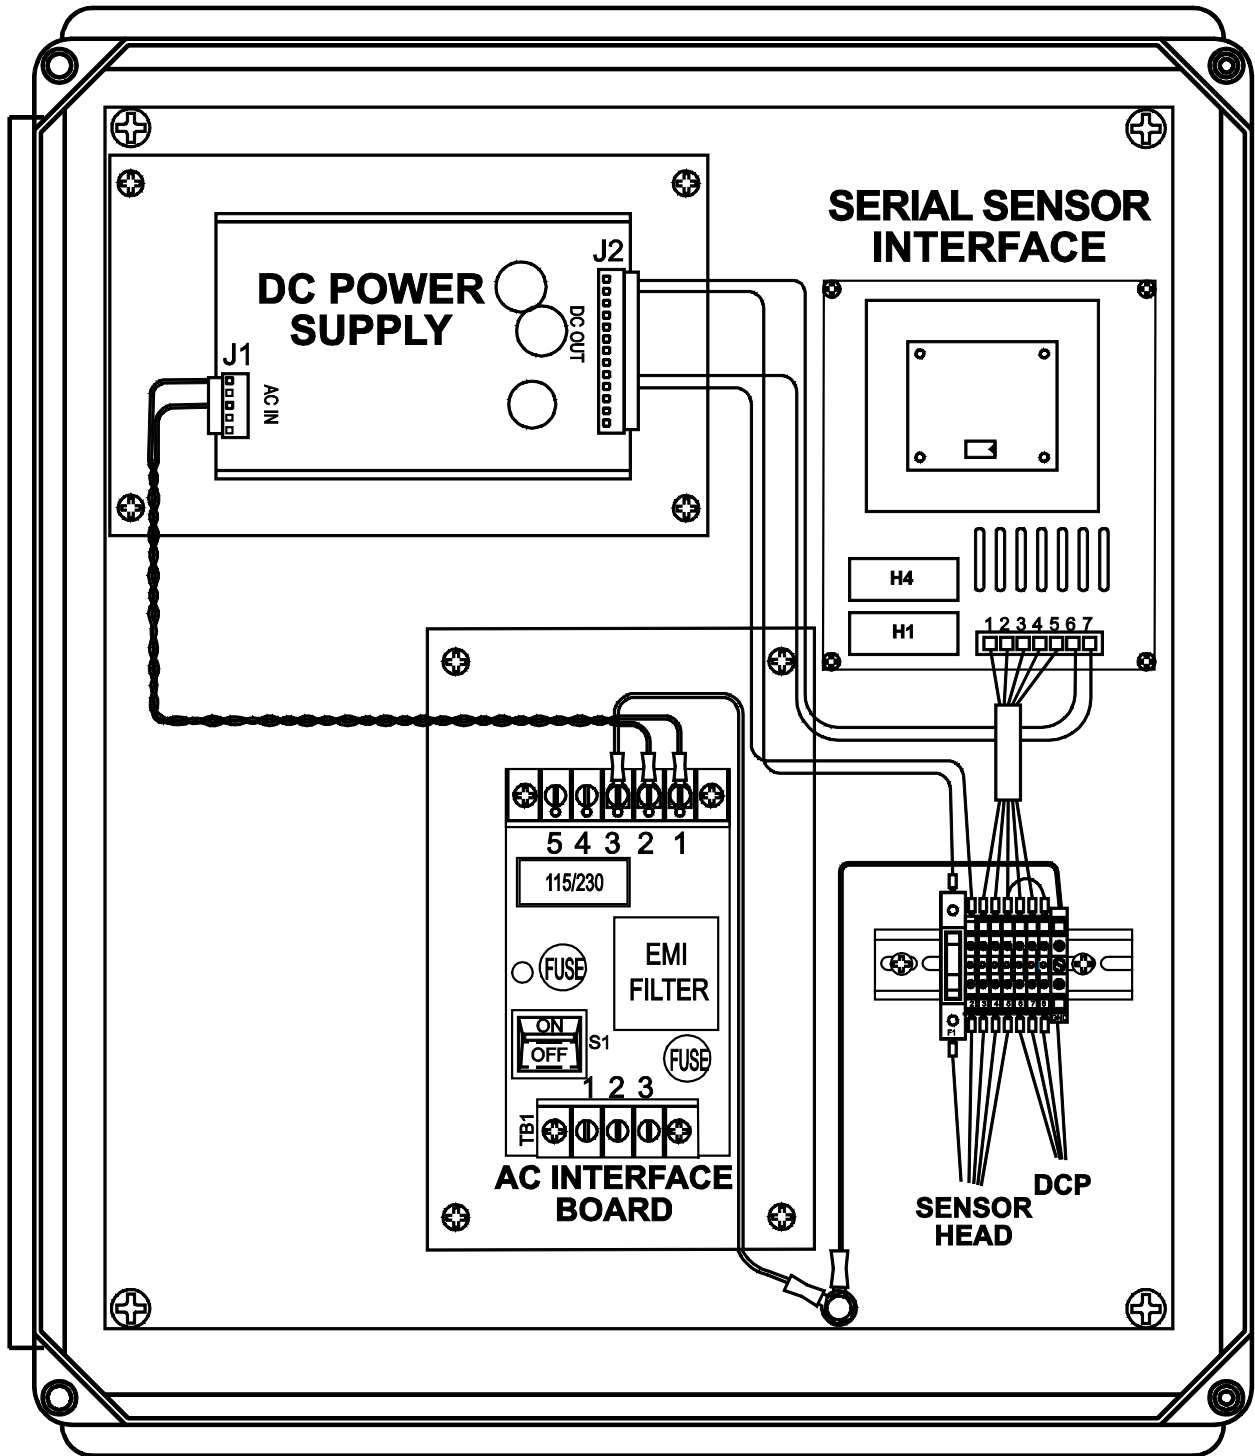
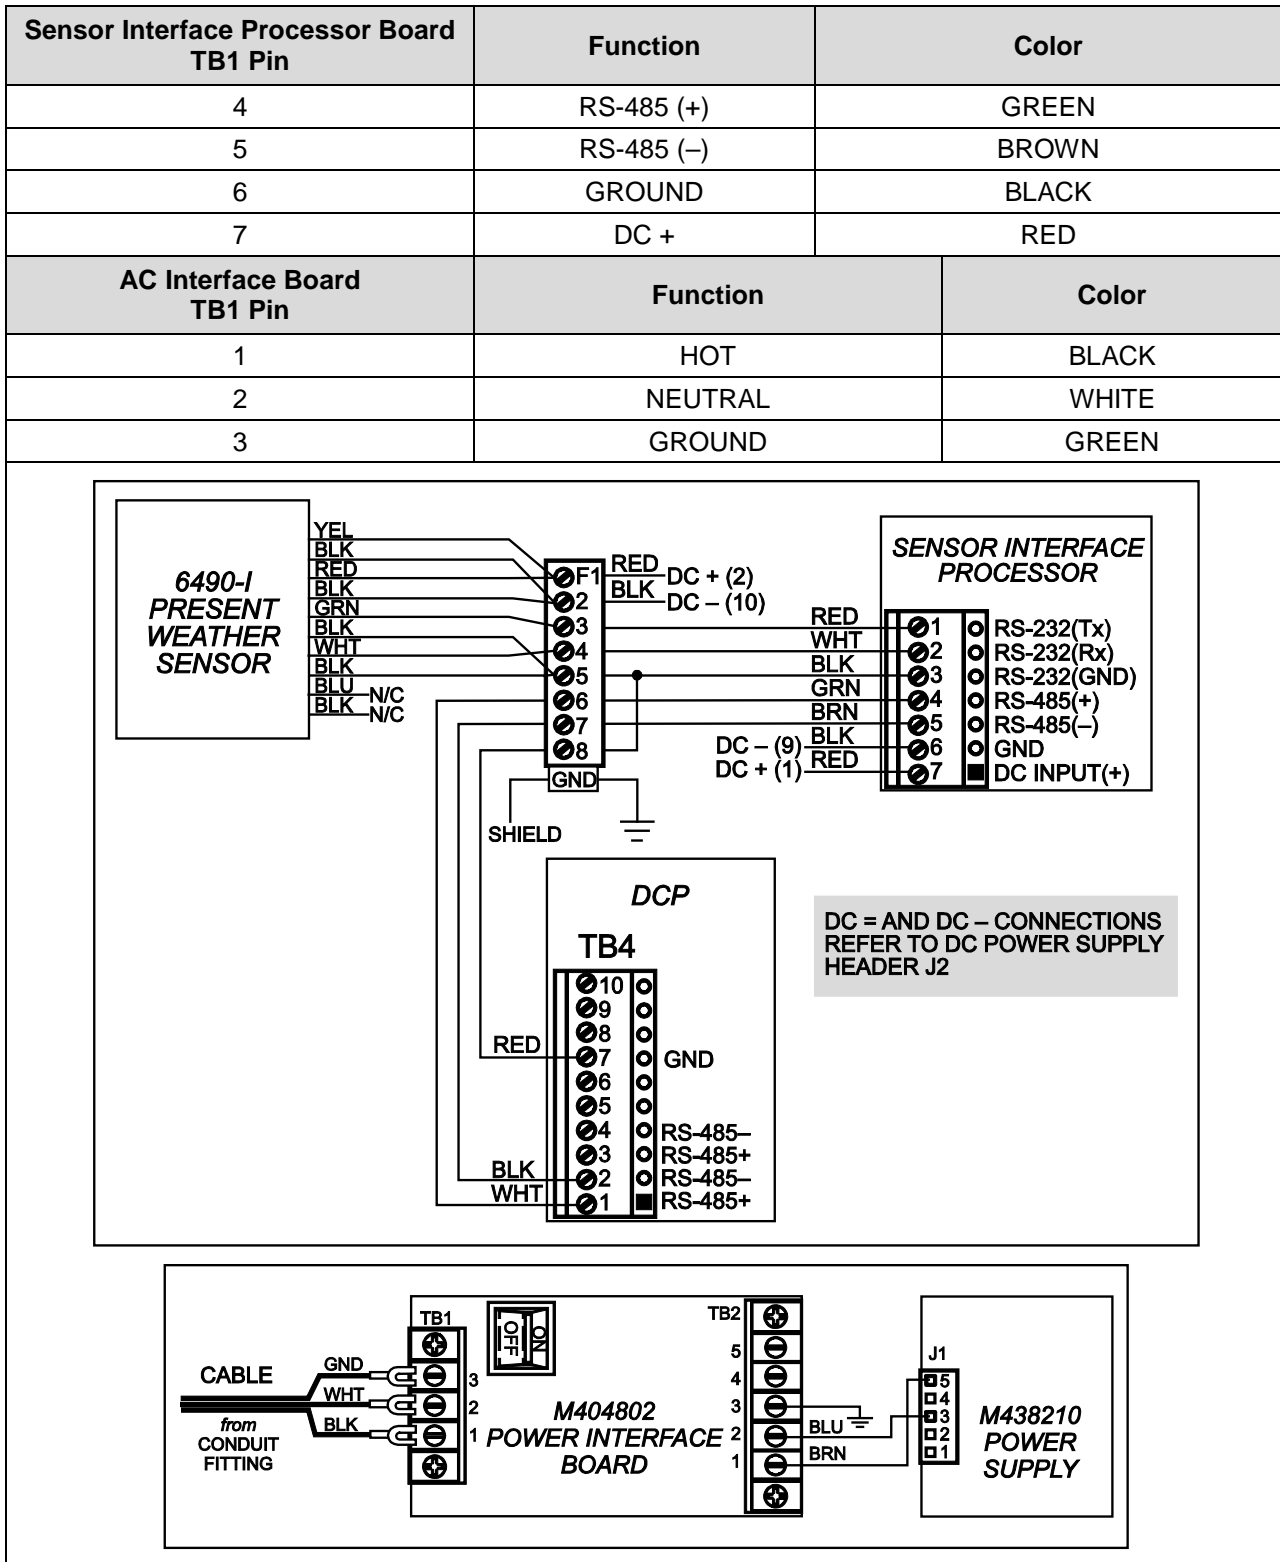

Figure 9. Model 6490-I Present Weather Sensor Subassemblies Inside Enclosure
Figure 10. Model 6490-I Present Weather Sensor Signal and Power Wiring
2. Connect the wires to the connector on the DIN rail shown in Figure 9 according to the wiring diagram in Figure 10.
Figure 9 shows the layout of the various electronics subassemblies inside the electronics enclosure.
Figure 10 summarizes all the signal and power wiring for the Model 6490-I Present Weather Sensor.